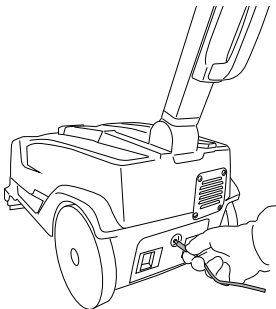

Fig.13
- Insert the jack plug of the battery charger into the socket on the battery (fig. 13).